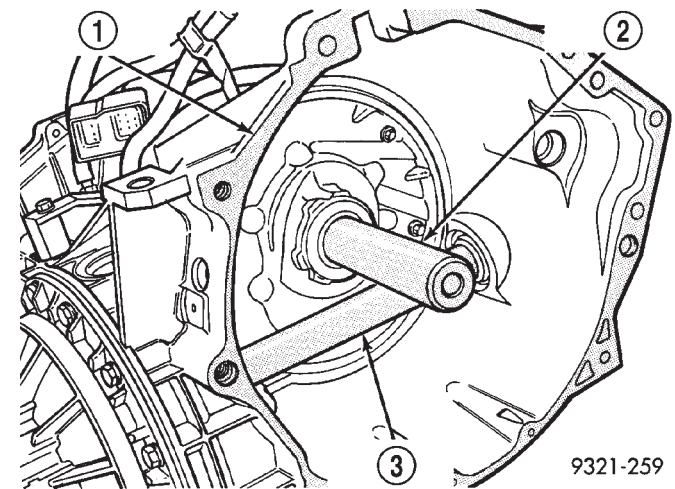

Fig. 106 Oil Seal Installation
(1) Clean and inspect oil pump seal seat. Then install seal using special tool C-4193A (Fig. 106).
(2) Clean and inspect torque converter hub. If nicks, scratches or hub wear are found, torque converter replacement will be required.